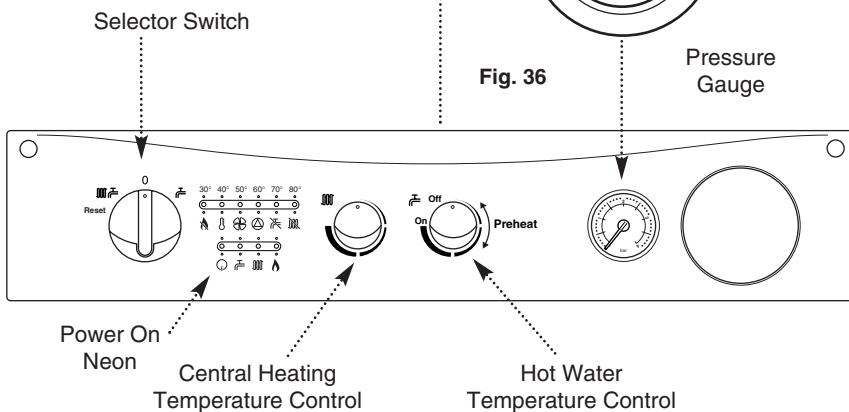

Fig. 37
2. Set the temperature control to maximum and the selector switch to the OFF position (Fig. 37).
6. Turn the selector switch to the Central Heating and Domestic Hot Water position (OFF). The power ON neon (ON) will illuminate (Fig. 37).